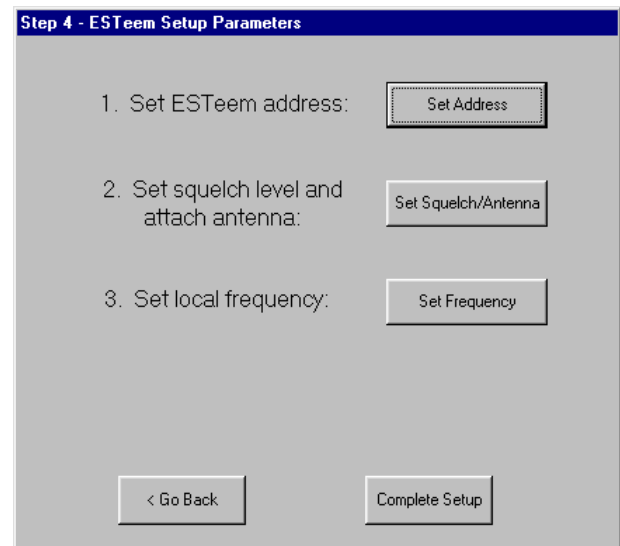

Figure 9: Step 4 – ESTeem Setup Parameters
- Step 4 – ESTeem Setup Parameters window will be displayed (Figure 9). This step will complete the setup for your ESTeem Model 192.